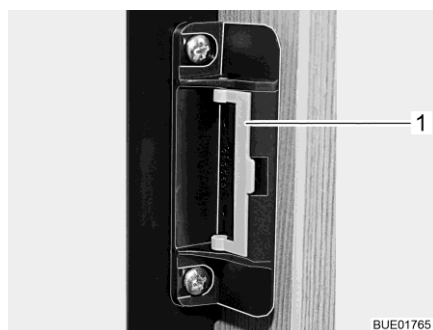
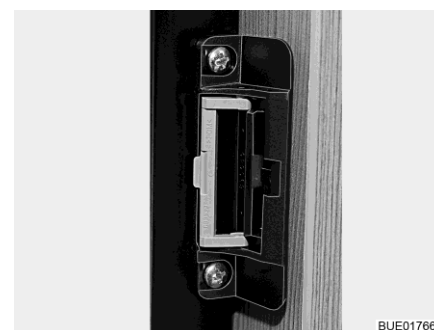

Fig. 81 Locking device in normal position
Fig. 82 Locking device in ventilation position
■ Swing the bracket (Fig. 81,1) to the front (Fig. 82).